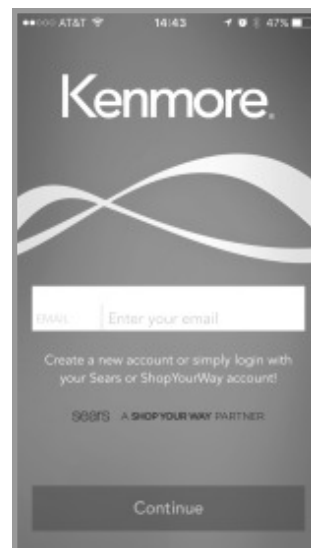

Figure 22
3. Follow the instructions to create a new account with your preferred e-mail address, or use your Sears ShopYourWay™ account e-mail address (Figure 22).